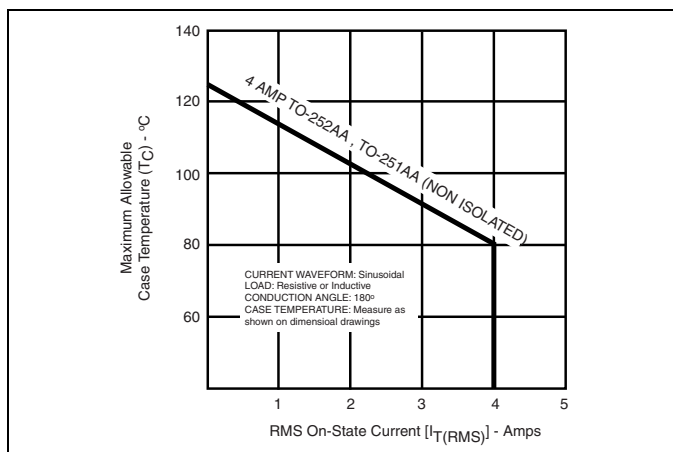

Figure 1.1 Maximum Allowable Case Temperature vs On-State Current (4.0 Amp)
- (5) See Figure 1.1 for maximum allowable case temperature at maximum rated current.
- (6) Pulse width $\leq 10\mu s$.
- (7) $T_C = T_J$ for test conditions in off-state.
- (8) Quadrants I, II, and III only.